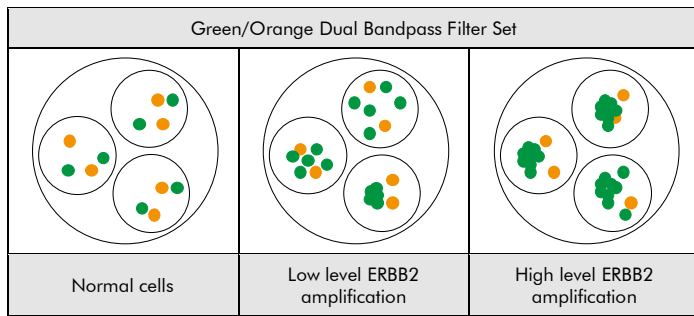

Fig. 2: Expected results in normal and aberrant interphase nuclei
**Normal situation:** In interphases of normal cells or cells without an amplification involving the ERBB2 gene region, two green and two orange signals appear (see Fig. 2).
**Aberrant situation:** In cells with an amplification of the ERBB2 gene region, an increased number of green signals or green signal clusters will be observed (see Fig. 2).